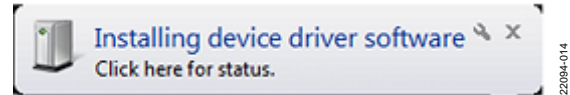

Figure 13. **Installing device driver software** Message
1. Verify that the **SDP-B** board is connected to the PC using the USB cable. The window in Figure 13 appears in the task bar when connected, and Windows then installs any necessary drivers.